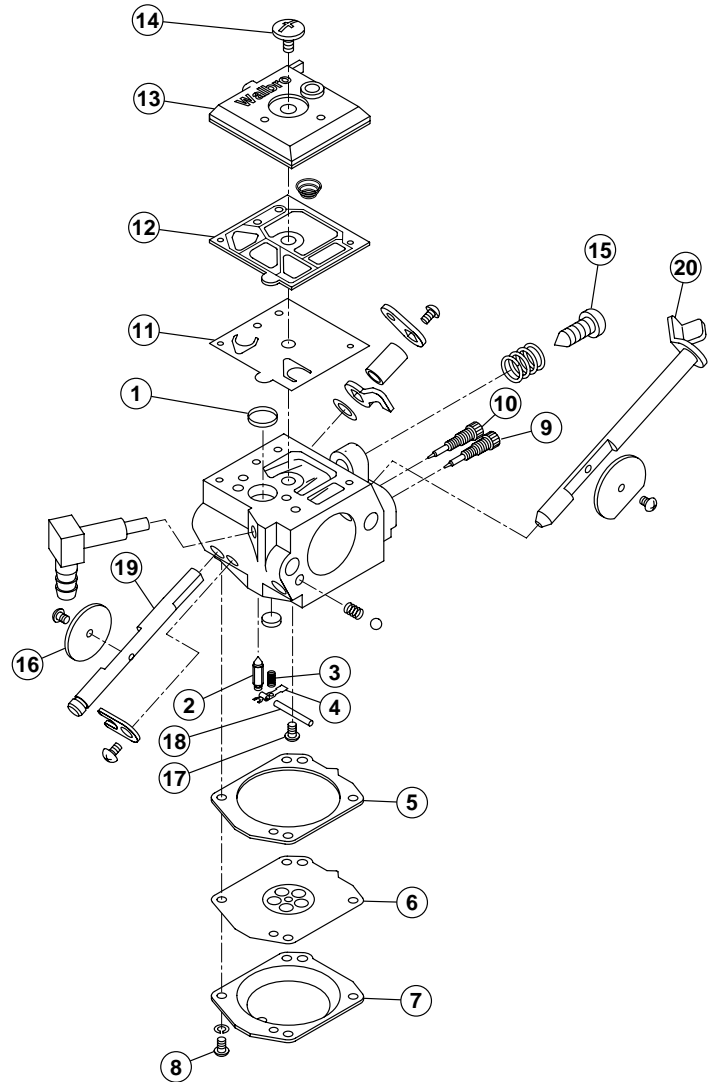

Fig. 8-8
- (1) Mount the inlet screen ① on the body.
- (2) Mount the inlet needle valve ②, metering lever spring ③, metering lever ④ and other related parts. After mounting these parts, adjust the metering lever ④ position at the specified height. Be particularly careful when carrying out this adjustment, because the metering lever height depends on the model.
- (3) Next, mount the metering gasket ⑤, metering diaphragm ⑥ and cover ⑦ in this order and then tighten the four cover screws ⑧.
- (4) Mount the high-speed needle ⑨ and the idle needle ⑩, turn them gently clockwise to the fully shut position and then adjust them to the specified opening by returning them counterclockwise from that position. Be particularly careful when carrying out this adjustment, because the opening depends on the model, both for the H and L positions.
- (5) Next, mount the pump diaphragm ⑪, pump gasket ⑫ and pump cover ⑬ in this order and then tighten the pump cover screw ⑭.
- Refer to the figure at the Fig. 8-8 for the procedure for mounting the parts of the carburetor.